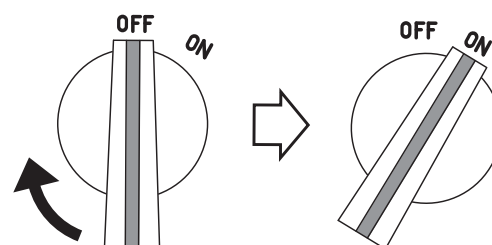

Figure 14. Engine ON/OFF Switch (ON Position)
4. Place the engine ON/OFF switch (Figure 14) in the "ON" position.